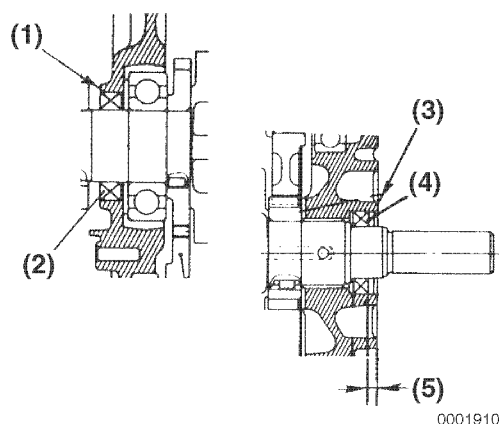

Figure 6-87
2. Use a seal installation tool to install the crankshaft oil seal (**Figure 6-87, (4)**) into the crankcase cover (**Figure 6-87, (3)**). Install to a depth of 0.16 in. (4.0 mm) (**Figure 6-87, (5)**) below the end of the crankcase bore. See *Special Service Tools* on page 6-20 for the appropriate tool number.
3. Install the crankshaft oil seal (**Figure 6-87, (2)**) into the cylinder block flush with the surface of the cylinder block (**Figure 6-87, (1)**).